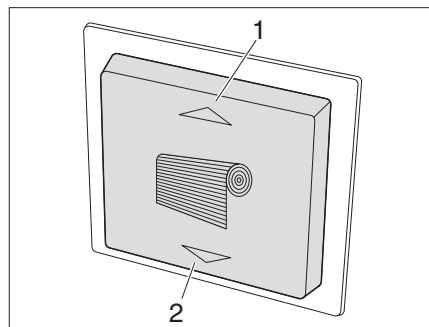
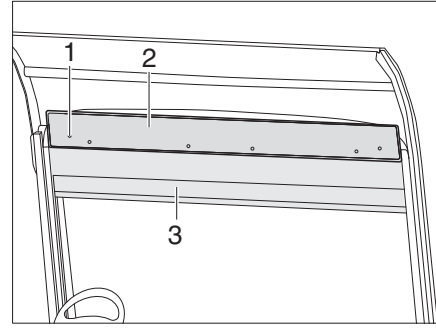

Fig. 78 Switch for blind
Fig. 80 Blind emergency function
Closing: ■ Press the (Fig. 78/2) button. The blind (Fig. 80/3) for the windscreen rolls down.
Opening: ■ Press the (Fig. 78/1) button. The blind (Fig. 80/3) for the windscreen rolls up.
- Unscrew 6 screws (Fig. 80/1) on the blind box and remove the panel (Fig. 80/2).
- Hang the crank in one of the two motors and raise or lower the blind (Fig. 80/3).